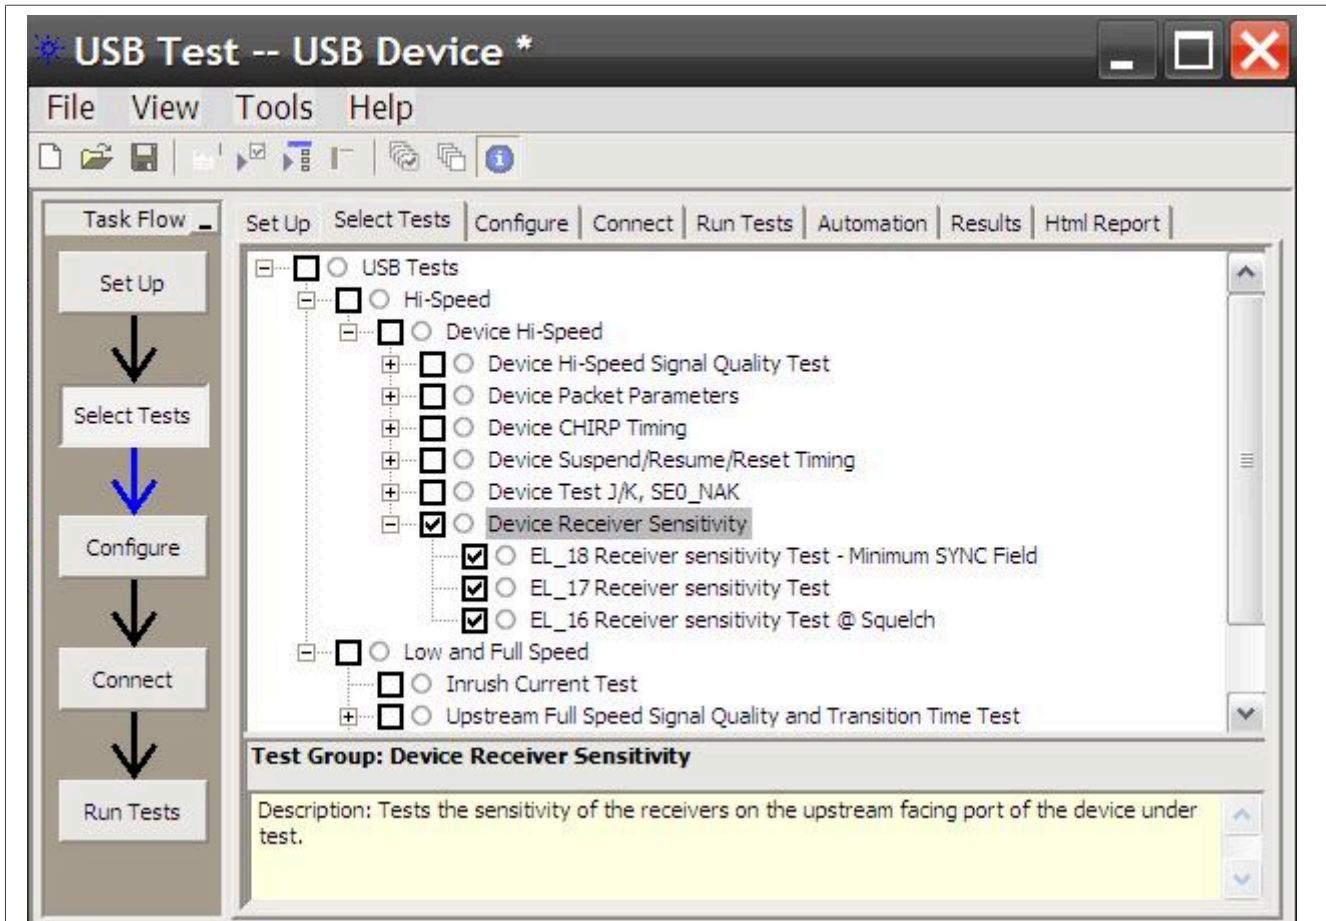

Figure 56. Device Receiver Sensitivity Test
1. Select the test items in the USB Automated Test Software on Oscilloscope as shown in Figure 56 below, and make sure you set the Test Type configuration option to “Hi-Speed Near End” before running the test.